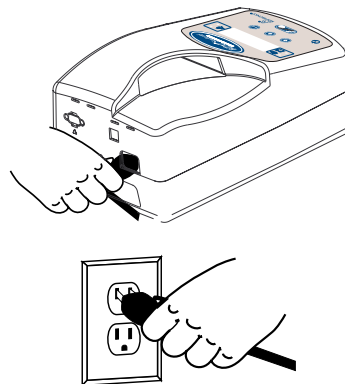

Figure 4-7 Plugging in the AC
STEP 1 Plug the receptacle end of the AC cord into the AC inlet of the Synchrony as shown in Figure 4-7.
STEP 2 Insert the plug end of the AC cord into the wall outlet as shown in Figure 4-7.